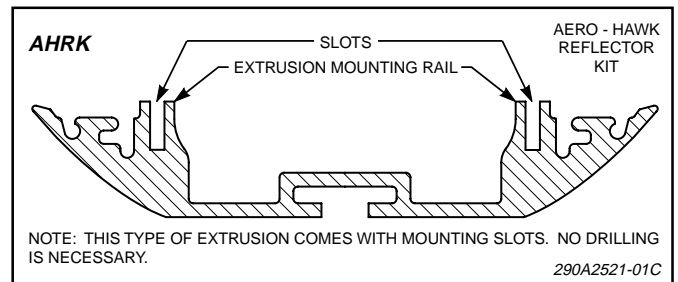

Figure 1.
4. See figures 1 and 2. If the extrusion is the type with mounting slots, no drilling is necessary. Proceed to step 7.